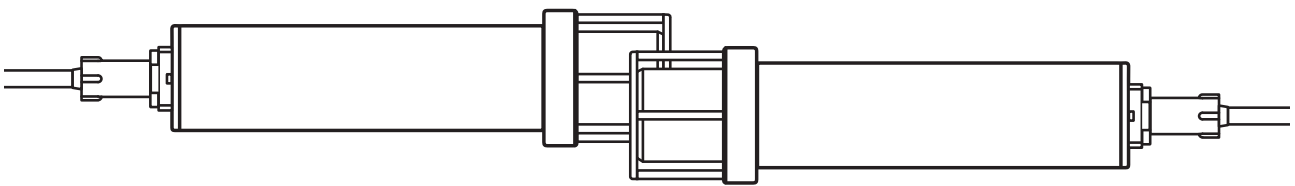

Figure 10: Device positioning for in-air testing
- Place 2 devices with their transducers as close as possible. See Fig. 10 for reference.